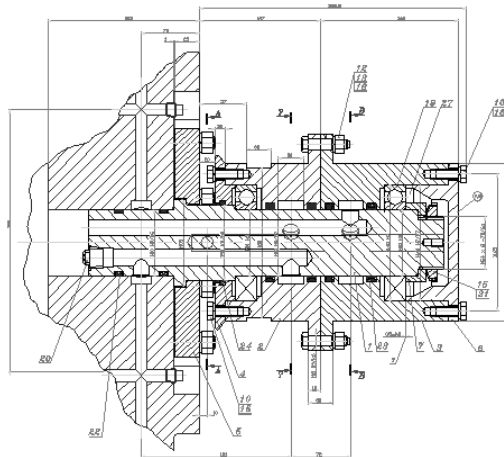

Figure 26-4: This drawing needs updated layers and a title block.
2. Save the file as ab26-01.dwg in your AutoCAD Bible folder. This drawing needs an updated set of layers and a title block. It is shown in Figure 26-4.